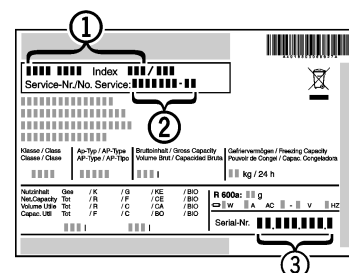

Fig. 14
- Notify a qualified service provider, specifying the fault, appliance designation *Fig. 14 (1)*, service no. *Fig. 14 (2)* and serial *Fig. 14 (3)* no.